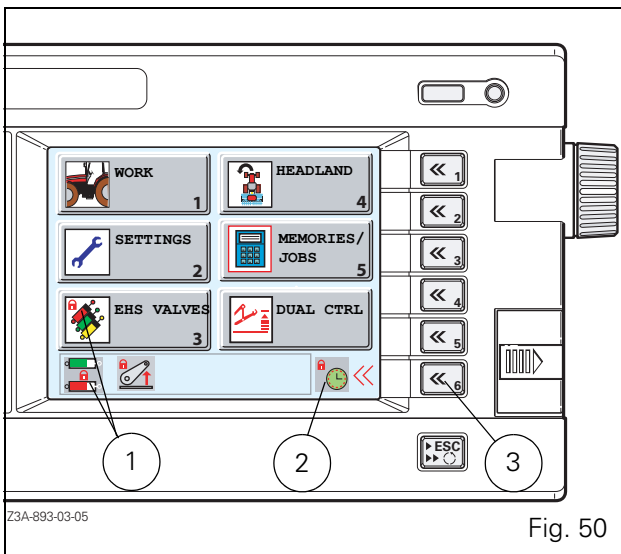

Fig. 50
2. Locking the spool valve activation times. To unlock, press the key <<6 (3 Fig. 50) (the padlock disappears).